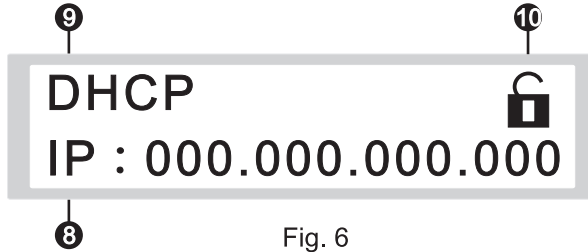

Fig. 6
1. Displays functions and parameters, Fig. 6